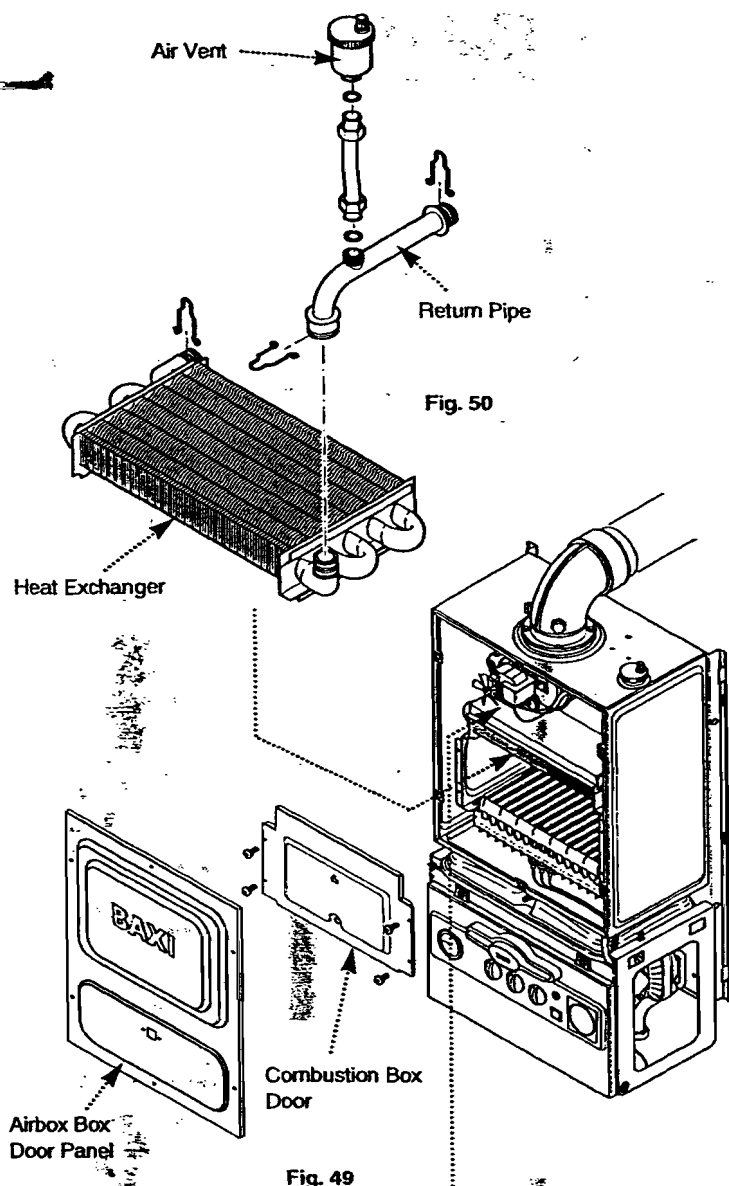

Fig. 49
1. Remove the airbox door panel by releasing the six $\frac{1}{4}$ turn screws (Fig. 49).
2. Undo the four screws securing the combustion box door and remove the door (Fig. 49).